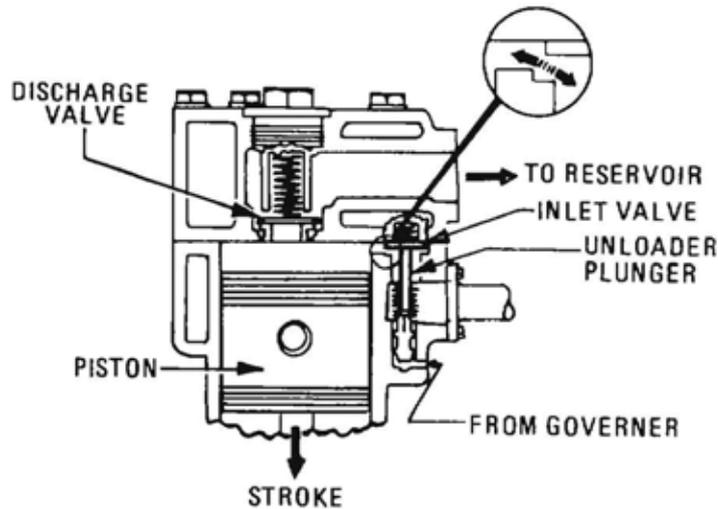

Figure 118 Unloading Operation
**167.** When the air pressure in both the air start system and the air brake system reaches the maximum governed pressure of 827 kPa (120 psi), the compressed air in the wet tank passes through the air compressor governor into the cavity below the unloading pistons in the cylinder block. This air pressure lifts the unloading pistons, which in turn lift the inlet valves off their seats (Figure 118). With the inlet valves held off their seats, the air during each upstroke of the piston is forced through the air inlet cavity into the other cylinder where the piston is on the down stroke. The air is pumped back and forth until air pressure in the air brake system is reduced to the minimum setting of the governor. The governor releases the air pressure beneath the unloading pistons, allowing the piston return springs to force the pistons down, and the inlet valve springs to return the valves to their seats. The compressor now resumes the operation of compressing air.